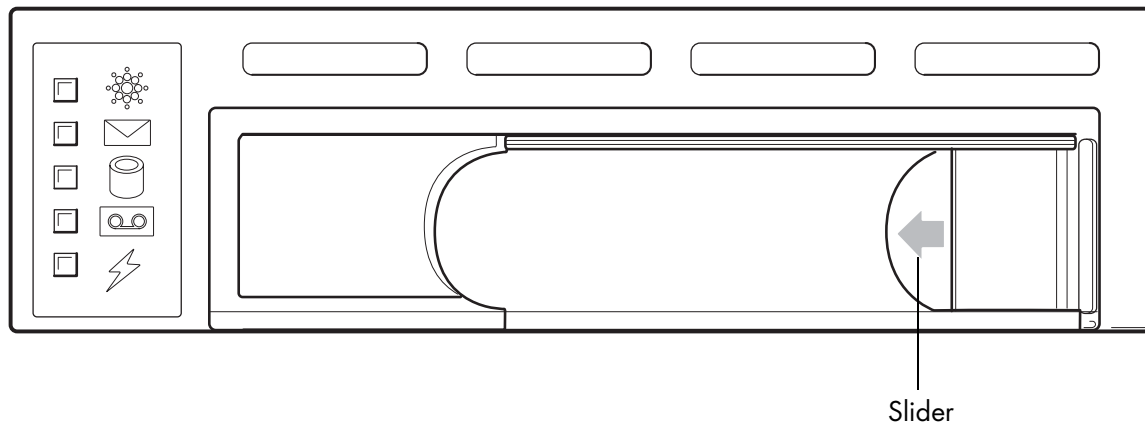
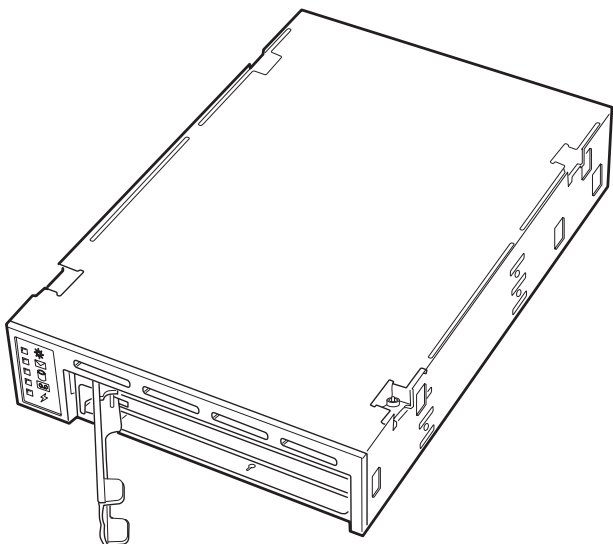

Figure 48. Slider Arrow
Figure 49. Swinging Out the Latch
2. On the front of the CP 3100, push the slider in the direction of the arrow to release the latch (see Figure 48 on page 94) and swing it out (see Figure 49 on page 95).